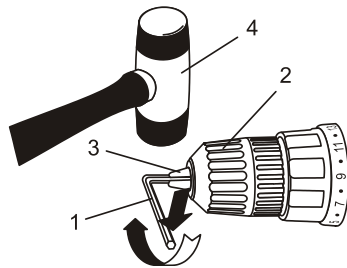

Fig. 12
2. Insert a 5/16" (8 mm) or larger hex key (1) into the chuck (2) and tighten the chuck jaws securely (Fig. 12). Make sure each of the chuck jaws (3) is seated on the flat surfaces of the hex key.
3. Tap the hex key sharply with a mallet (4) in a clockwise direction. This action will loosen the screw in the chuck for easy removal.